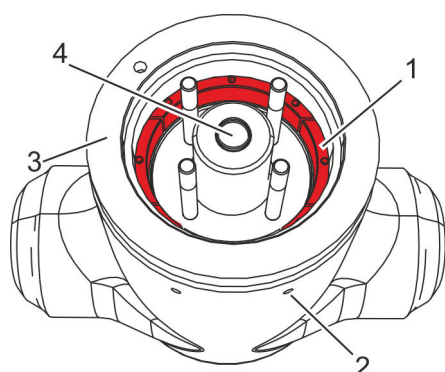
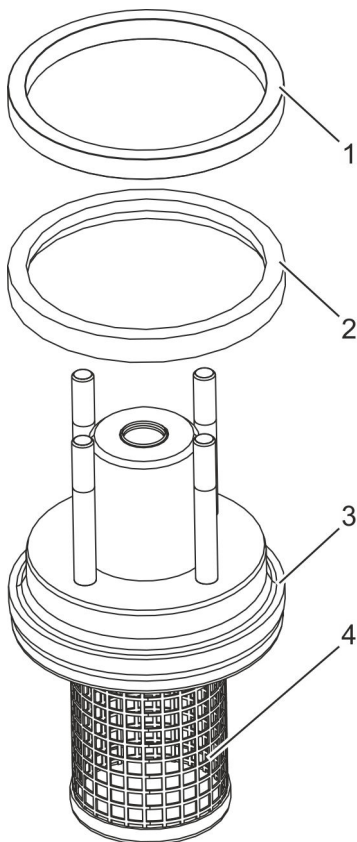

Fig. 18: Removing the segment ring
Fig. 19: Support ring, gasket ring, cover, screen cylinder
4. → Using the pin puncher, punch the segment ring's segments (Fig. 18/1) into the interior through the outer ejection bores (Fig. 18/2).
5. → Remove the segments (Fig. 18/1).
With a suitable hoist, lift the cover out of the body (Fig. 18/3) together with the gasket ring, support ring and screen cylinder (Fig. 19/1–4).
- 7. ➤ Lift the support ring (Fig. 19/1) off the cover (Fig. 19/3).
- 8. ➤ Lift the gasket ring (Fig. 19/2) off the cover (Fig. 19/3).